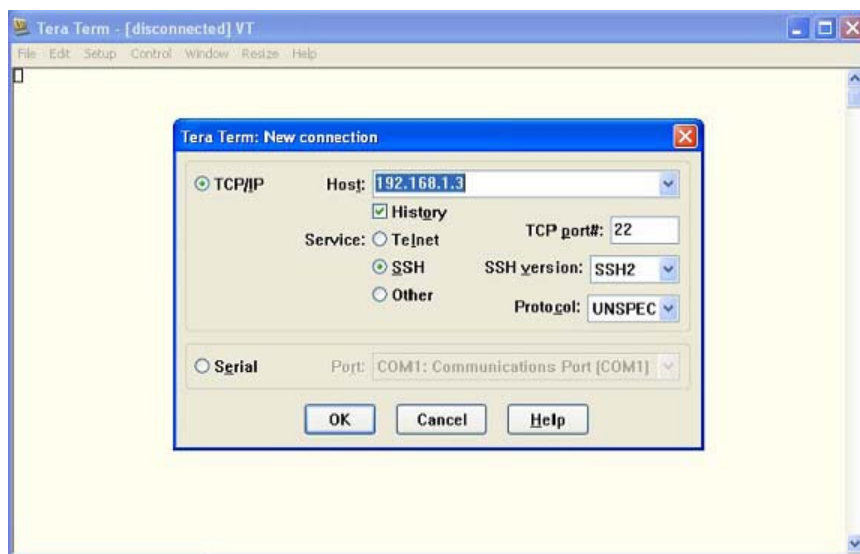

Figure 6-23: Tera Term New Connection Screen
17. Once the Tera Term Setup is installed, the New Connection screen appears (Figure 6-23).